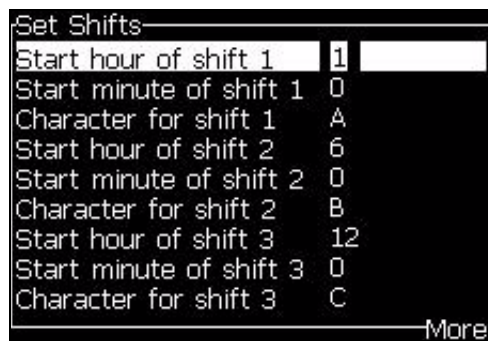

Figure 5-32: Set the Shifts
- 3 Press the *Enter* key to open the *Set Shifts* dialog box (Figure 5-32 on page 5-43).